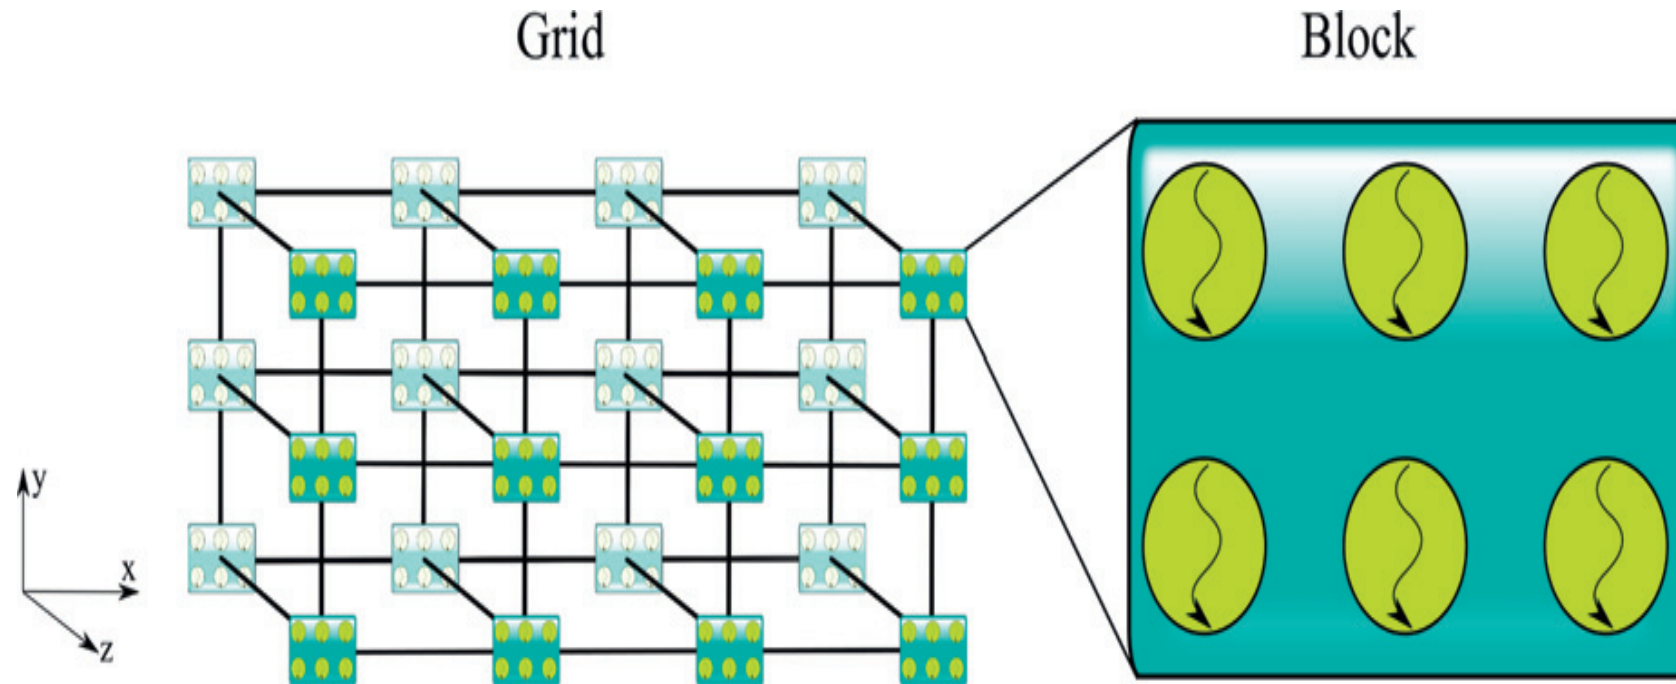

FIGURE 6.3
- For example, running a kernel called foo() by a set of threads, like the one depicted in Figure 6.3, would require the following lines: